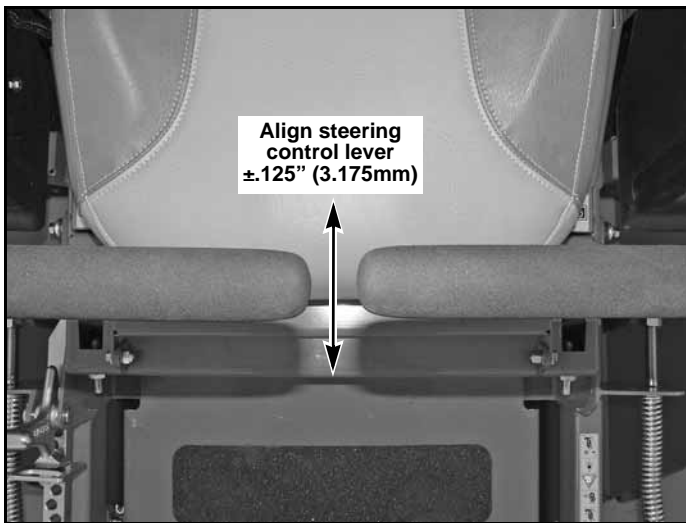

Figure 4-9
2. The steering control levers should be adjusted so that they align vertically with each other when in the neutral position. Figure 4-9